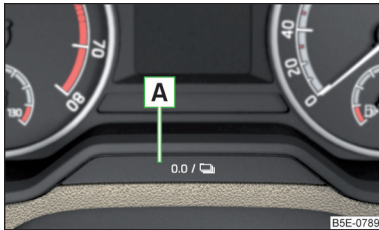

Fig. 50
- Press and hold the button **A** » Fig. 50 until the **Service** menu item is shown in the display.